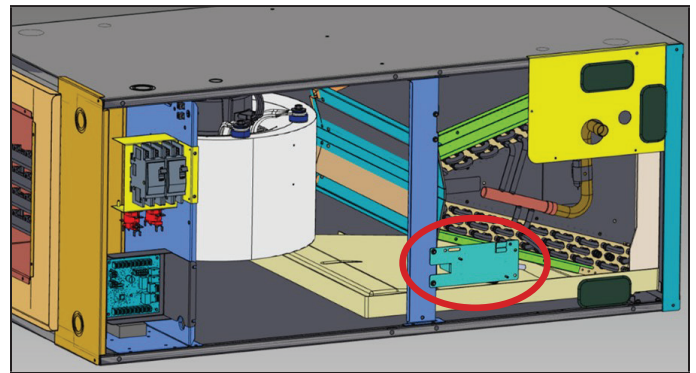

FIGURE 10
- 3 - After coil assembly and center support bracket are reinstalled into unit, with air handler unit panels removed, install sensor bracket assembly to the center support bracket by lining up the holes as shown in FIGURE 10.